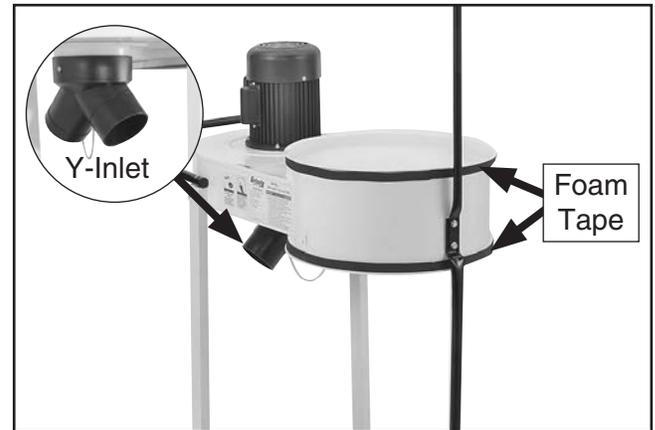

Figure 14. Y-Inlet and foam tape attached to impeller housing.
- Attach foam tape to impeller housing where collection and filter bags attach (see **Figure 14**).
- Attach Y-Inlet to intake on impeller housing (see **Figure 14**).